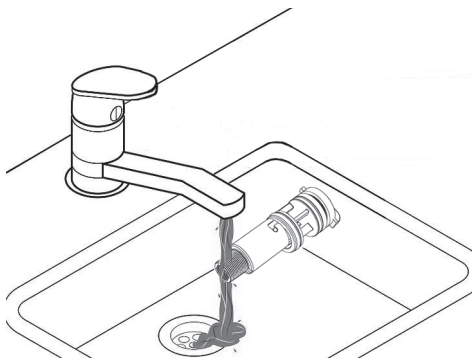
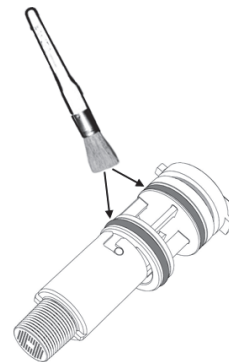

fig. 50
fig. 51
- The flowmeter components can thus be cleaned or replaced (see fig. 50 and fig. 51).